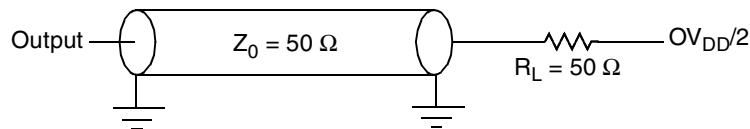

Figure 14. Local Bus C Test Load
Figure 14 provides the AC test load for the local bus.
1. All outputs are measured from the midpoint voltage of the falling/rising edge of t_{TCLK} to the midpoint of the signal in question. The output timings are measured at the pins. All output timings assume a purely resistive 50-Ω load (see Figure 14). Time-of-flight delays must be added for trace lengths, vias, and connectors in the system.
2. The symbols used for timing specifications follow the pattern of $t_{(first\ two\ letters\ of\ functional\ block)(signal)(state)(reference)(state)}$ for inputs and $t_{(first\ two\ letters\ of\ functional\ block)(reference)(state)(signal)(state)}$ for outputs. For example, $t_{JTDV KH}$ symbolizes JTAG device timing (JT) with respect to the time data input signals (D) reaching the valid state (V) relative to the $t_{JT G}$ clock reference (K) going to the high (H) state or setup time. Also, $t_{JTDX KH}$ symbolizes JTAG timing (JT) with respect to the time data input signals (D) went invalid (X) relative to the $t_{JT G}$ clock reference (K) going to the high (H) state. Note that, in general, the clock reference symbol representation is based on three letters representing the clock of a particular functional. For rise and fall times, the latter convention is used with the appropriate letter: R (rise) or F (fall).